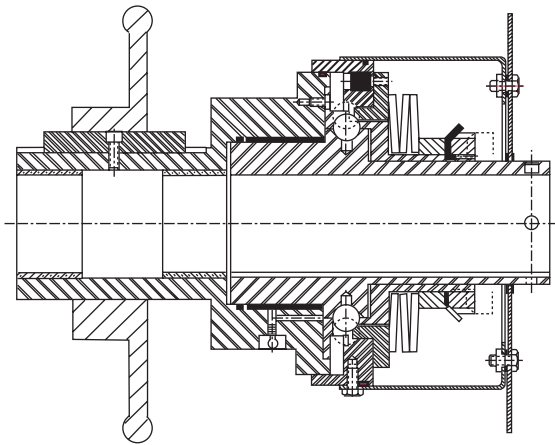

Figure 6
2. Slide handwheel half of jaw clutch on Type J housing. The handwheel should be free to float along the hub of the J housing. See Figure 6 for possible jaw clutch mounting.